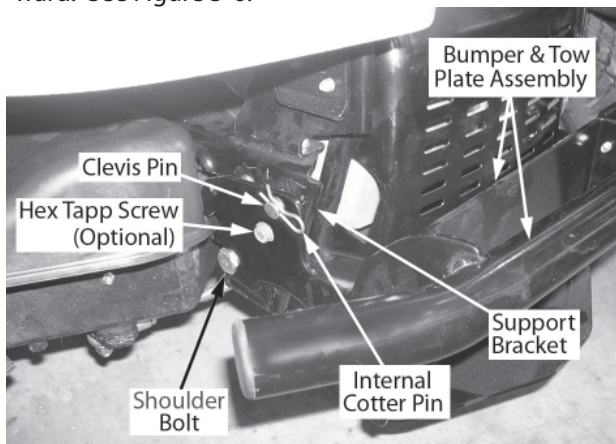

Figure 3-6
- Working from the rear of the tractor, locate the shoulder bolt in the support bracket on each side of the tractor. Refer to Figure 3-6.
- Position the rear bumper/tow plate so that the hitch hole of the tow plate is at the bottom and faces rearward. See Figure 3-6.
- Slide the rear bumper assembly along the outside of the support brackets and slide the lower/front notch of the bumper assembly onto the shoulder bolts in both support brackets. Pivot the bumper assembly as necessary to align its larger upper/rear mounting holes with the comparable holes in the support brackets. Refer to Figure 3-6.
- From either side of the bumper, maneuver the clevis pin up inside of the tractor support bracket and insert through the holes of the bracket and bumper. Insert the internal cotter pin through the clevis pin to secure. Refer to Figure 3-6. Repeat on the other side of the bumper to secure.
- If you desire to firmly secure the bumper assembly, insert a hex tapp screw through the center hole on each side of the bumper assembly and thread into the support brackets. Fully tighten to secure the rear bumper/tow plate assembly. Refer to Figure 3-6.